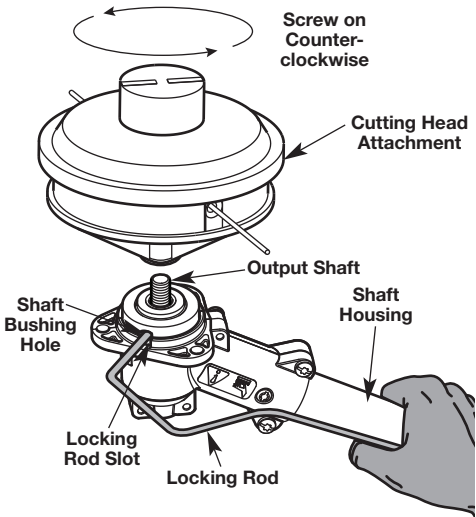

Fig. 15
1. Position the cutting head attachment as shown (Fig. 15). Align the shaft bushing hole with the locking rod slot. Insert the locking rod into the shaft bushing hole.
2. Hold the locking rod in place by grasping it next to the boom of the shaft housing (Fig 15).
3. Fully press and release the primer bulb 10 times, slowly. Some amount of fuel should be visible in the primer bulb (Fig. 15). If fuel cannot be seen in the bulb, press and release the bulb until fuel is visible.